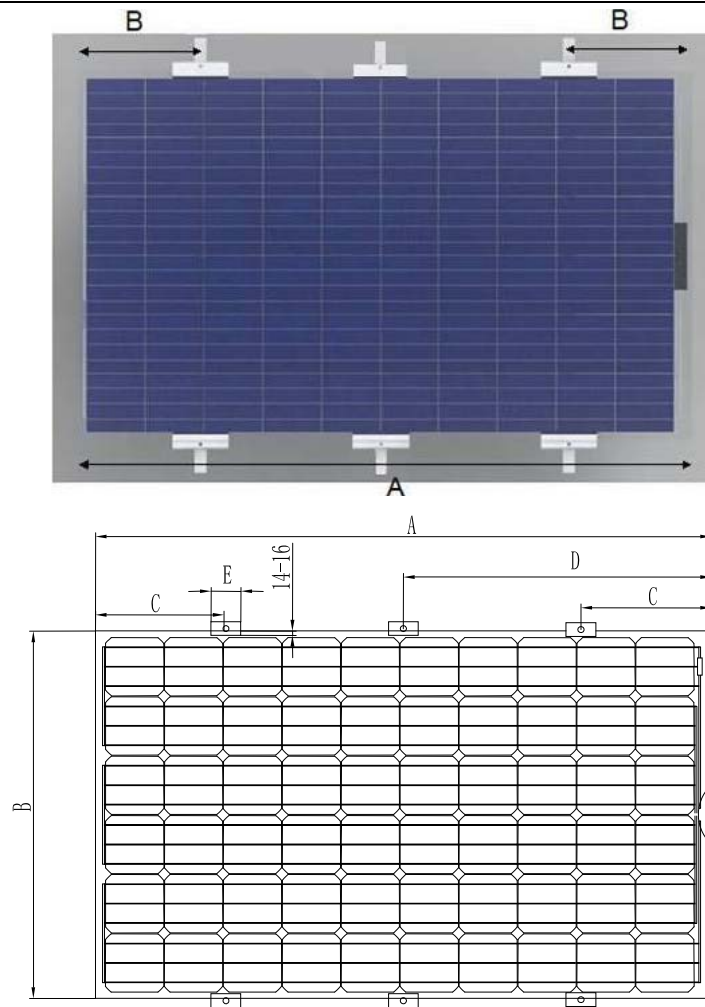

FIG 11
- ✚ If heavy snowfall, relatively large snow load or large wind pressure exist in the module installation area, CSUN suggests the customer to selecting the 5400Pa strengthening installation scheme to clamp and fix the module (as shown in FIG 11) to improve the bearing capacity of the module for static snow load at front side and dynamic wind pressure at back side, and enhance the system capacity.